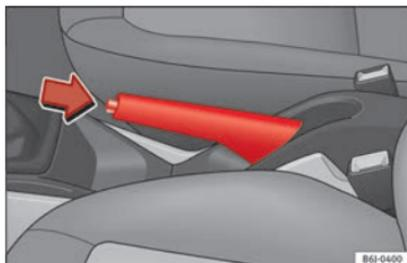

Fig. 169 Handbrake between the front seats.
- Pull the handbrake lever up firmly » Fig. 169.
- Pull the lever up slightly and press the release knob in the direction of the arrow » Fig. 169 and guide the handbrake lever down fully » ⚠.